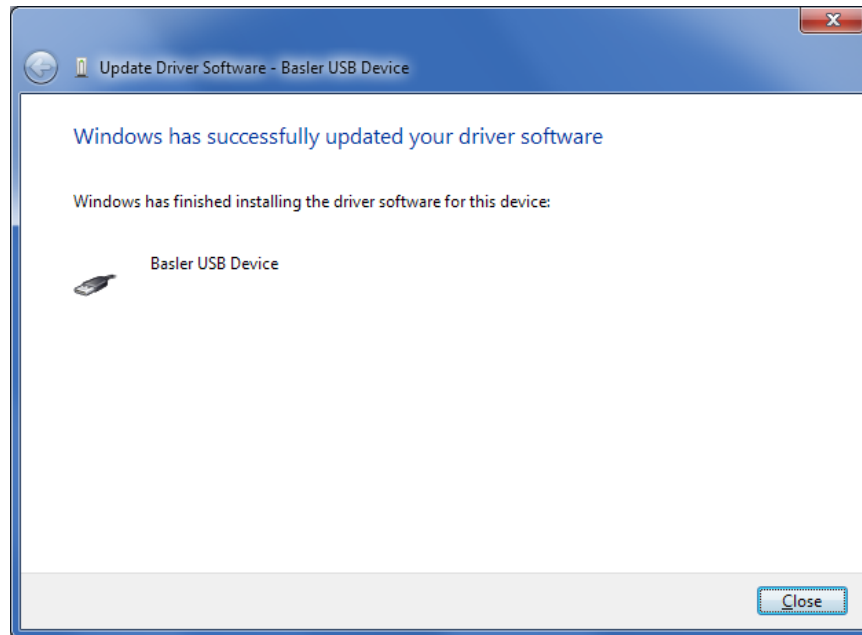

Figure 77-7. Driver Software Update Successful
Step 7. The window in Figure 77-7 appears if driver installation was successful.